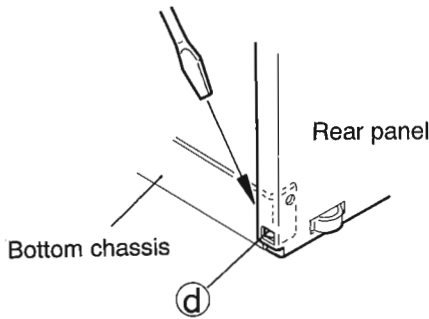

Fig. 3-11
6. Use a screwdriver, etc., to disengage the two engagements bottom chassis clips (d) and (e) from the bottom part of the side panels of the rear panel assembly. (See Fig. 3-11,12)